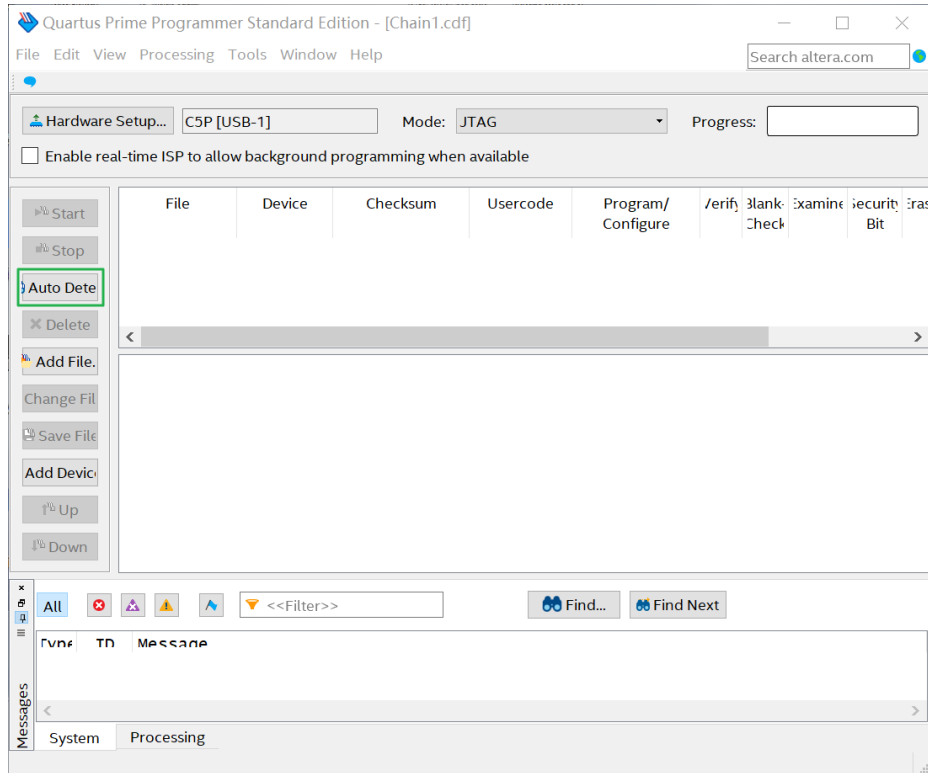

Figure 3-2 Detect FPGA device in JTAG mode
1. Open the Quartus Prime programmer under Quartus Prime Tools and click “Auto Detect”, as circled in **Figure 3-2**.